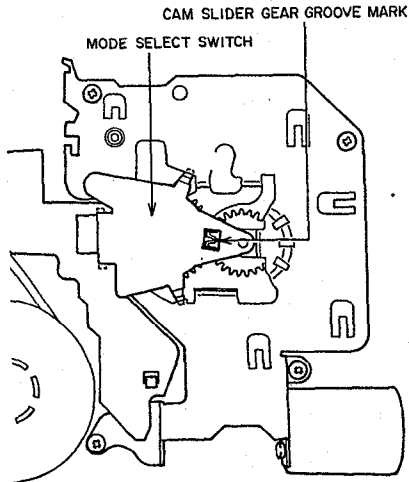

Fig. 3-4
* Before proceeding with removal of the SENSOR PCB, the loading mechanism must be set to the "unloaded" position (the position where the CAM SLIDER GEAR's groove mark is visible through the hole of the MODE SELECT SW.) as shown in Fig. 3-4.